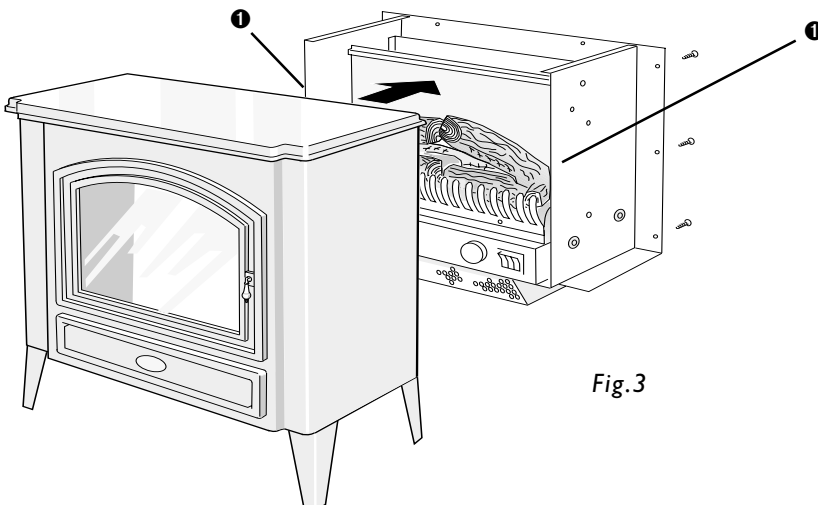

Fig. 3
- 2.1 Remove the six screws (three down each side) securing rear panel to surround 35, and the two screws ❶ located above the fuel effect through the sides of the chassis (see fig. 3). Slide the chassis assembly out from the rear of the surround.